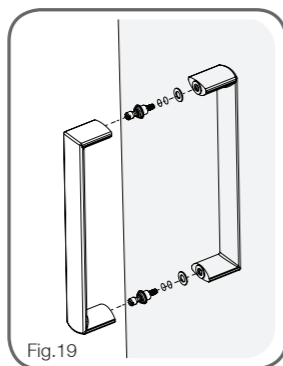

Fig.19
3. Insert a brass fixing boss through the handle holes in the glass door, with a plastic washer either side of the glass (See Fig.19). Screw each fixing boss into the handle.